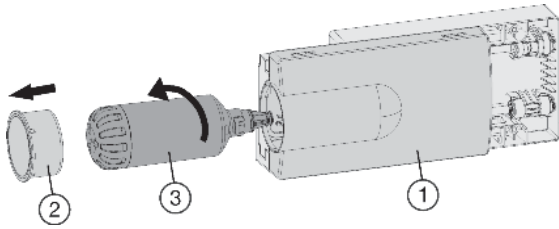

Fig. 49
- ▶ Pull out the tray Fig. 49 (1), if necessary.
- ▶ Remove the filter cover Fig. 49 (2).
- ▶ Turn the water filter Fig. 49 (3) approximately 100° counterclockwise and pull it out.